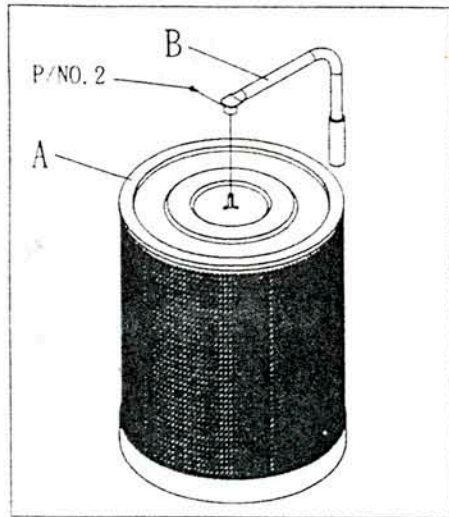

FIG. 1
Mounting the handle (B) on the top of canister filter (A) by tightening up the hex. head screw M6 x 16 (P/no.:2). Please make sure the screw is locked tightly. Please see figure 1 and 2.